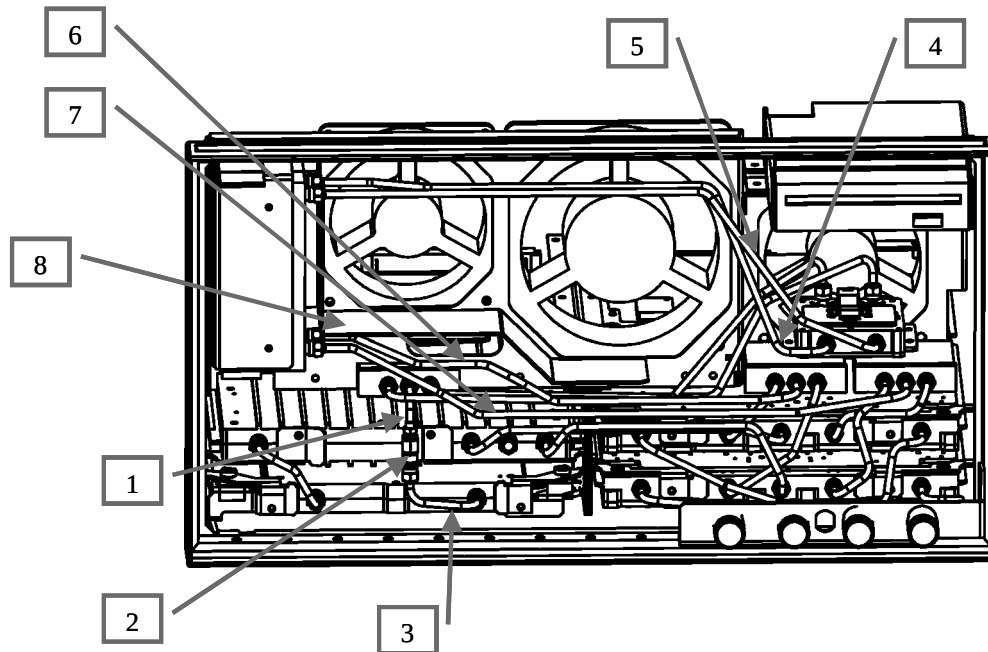

Figure 14 Front View (Semirigid Cables Opt. 413, 414 after modification)
12. Connect A4 and A7 ATT with E5070-61633 (No 4 in Figure 14) semi-rigid cable
13. Connect A4 and A7 ATT with E5070-61635 (No 5 in Figure 14) semi-rigid cable
14. Connect ATT and A8 with E5070-61634 (No 6 in Figure 14) semi-rigid cable
15. Connect ATT and A8 with E5070-61636 (No 7 in Figure 14) semi-rigid cable
16. Screw E5070-01223 plate (No 8 in figure 14) instead of E5070-01222
15. Connect A3 and 0955-0301 (removed in step 8) with E5070-61675 (No 3 in Figure 14, see below) semi-rigid cable
16. Connect 0955-0301 and A8 (source side) with E5070-61676 (No 1 in Figure 14)
18. Connect A4 and A7 ATT with E5070-61633 (No 4 in Figure 14) semi-rigid cable
19. Connect A4 and A7 ATT with E5070-61635 (No 5 in Figure 14) semi-rigid cable
20. Connect ATT and A8 with E5070-61634 (No 6 in Figure 14) semi-rigid cable
21. Connect ATT and A8 with E5070-61636 (No 7 in Figure 14) semi-rigid cable
22. Screw E5070-01223 plate (No 8 in figure 14) instead of E5070-01222
Copy of Figure 14 in page 16